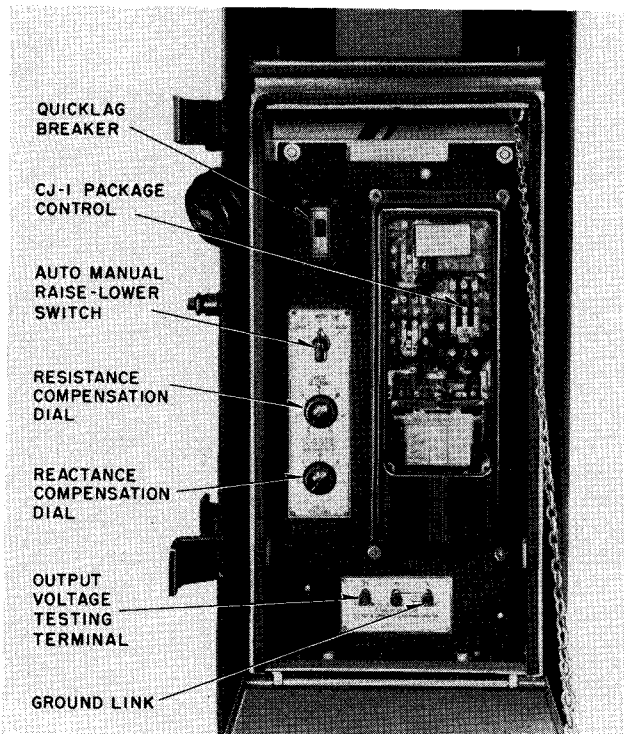

FIG. 6. URL-8 Control Cabinet Panel.
**Control.** Control equipment for automatic and manual operation of the Type URL-8 Regulator is mounted on a hinged steel panel housed in a weatherproof cabinet (Fig. 6). The control cabinet is supplied mounted on the main tank, but if desired, can be removed and mounted at the base of the pole without requiring additional hanger irons.